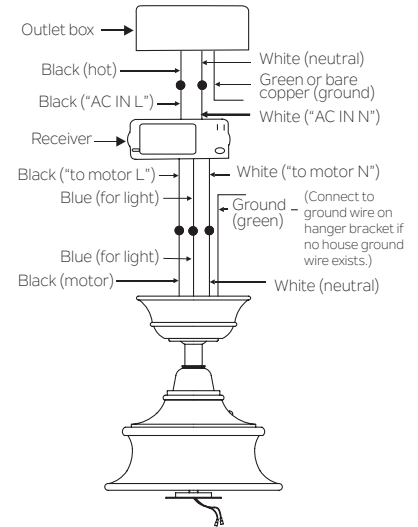

Fig. 14
Step 2. Motor to Receiver Electrical Connections: (Fig. 14) Connect the black wire from the fan to the black wire marked “TO MOTOR L” on the receiver.
Step 3. (Fig. 14) Receiver to House Supply Wires Electrical Connections: Connect the black (hot) wire from the ceiling to the black wire marked "AC in L" from the receiver. Connect the white (neutral) wire from the ceiling to the white wire marked "AC in N" from the Receiver. Secure the wire connections with the plastic wire nuts provided.
Step 4. (Fig. 14) If your outlet box has a ground wire (green or bare copper) connect it to the fan ground wires; otherwise connect the hanging bracket ground wire to the mounting bracket. Secure the wire connection with a plastic nut provided. After connecting the wires, spread them apart so that the green and white wires are on one side of the outlet box and black and blue wires are on the other side. Carefully tuck the wire connections up into the outlet box.